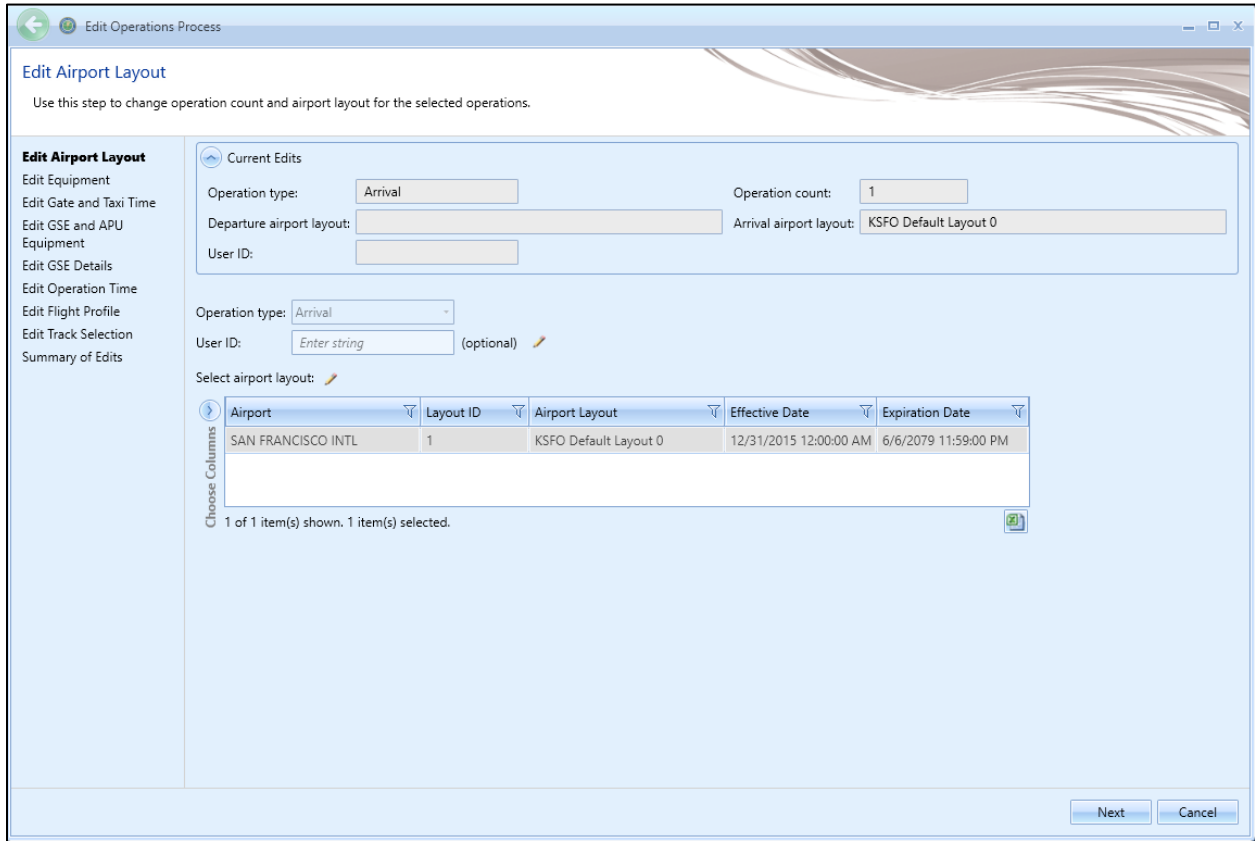

Figure 6-22 Bulk Aircraft Operations Edit
3. In the *Aircraft Actions* ribbon group, click *Edit* to open the *Edit Operations Process* wizard (Figure 6-22).